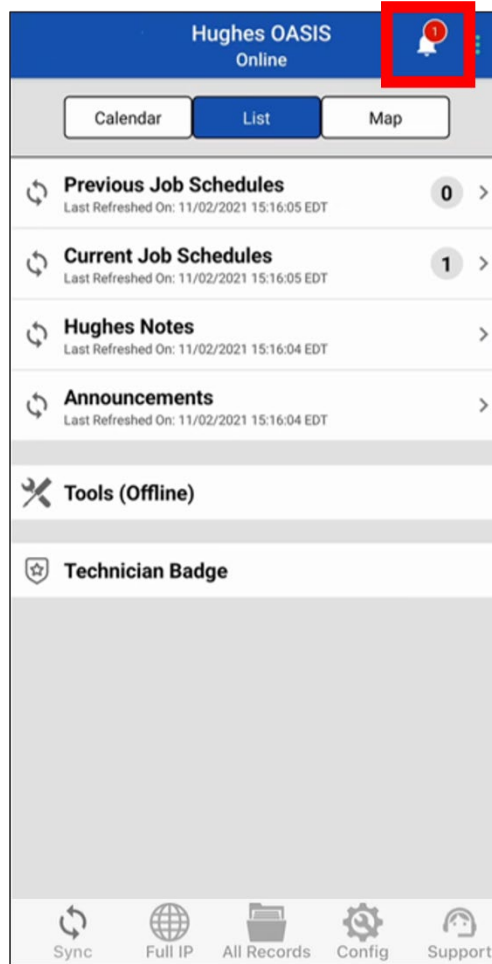

Figure 11: Bell icon
A bell icon on the top of the screen (outlined in Figure 11) notifies you that you have received messages, such as order updates, password expiration notices, and important notes from Hughes.
1. Tap on the **Support** button (shown in the bottom toolbar of Figure 11).